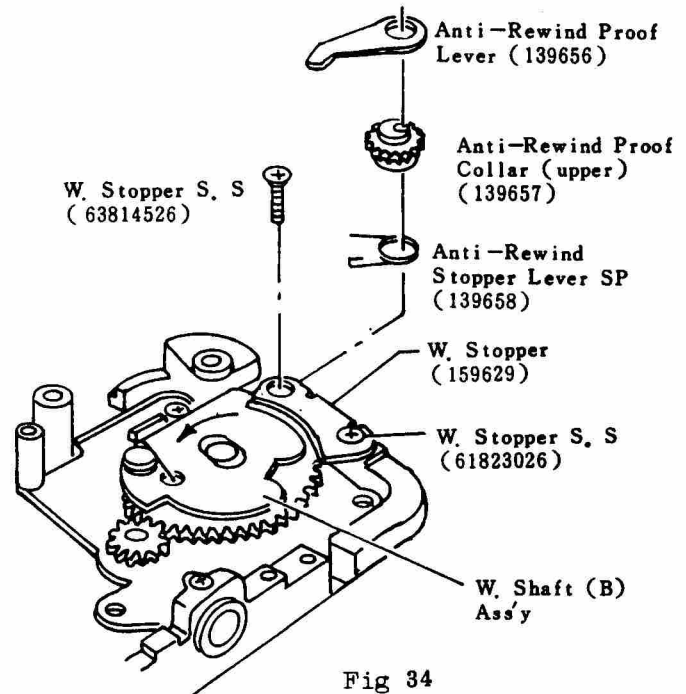

Fig 34
- i) Turn the W. Shaft (B) Ass'y in the direction of arrow as shown in (Fig 34) and hold it, set the W. Stopper (159629) and tighten the W. Stopper S. S (61823026).